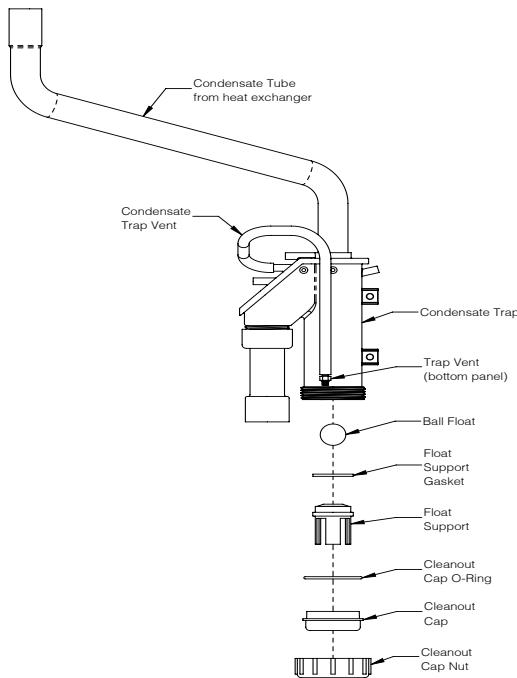

Figure 18-5: Condensate Trap Exploded Parts View
- Place bucket under condensate clean out cap on bottom of boiler (Figure 18-5) to catch water in trap as well as ball and support.
- Flush any debris found in trap with water - do not use other cleaning agents. Reassemble trap as shown in Figure 18-5.